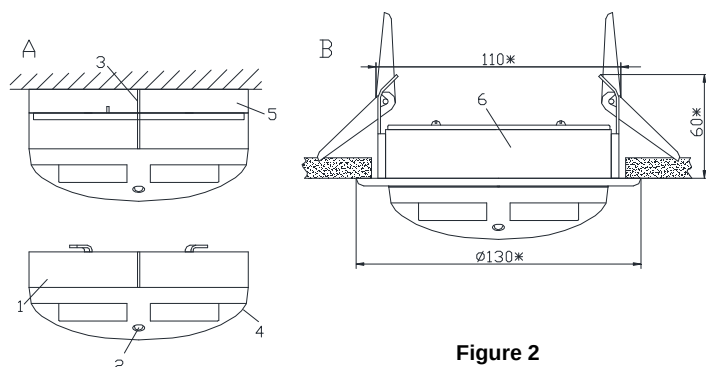
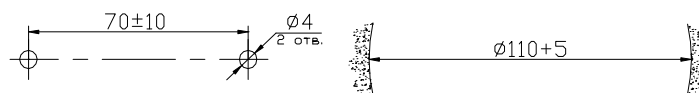

Figure 2
Figure 3
Figure 2 shows two possible ways of attaching the detector. To attach the detector to a solid surface (variant **A**) use the mounting base provided (see also the drilling pattern in Figure 3, at the left). Otherwise, a separately purchased mounting kit MK-2 can be used to build the detector into a suspended ceiling (variant **B**). The size of the mounting hole is shown in Figure 3, at the right.
Figure 3 shows the drilling pattern to install the detector for the variant A and the diameter of the mounting hole in the suspended ceiling for the variant B.
To attach the detector to the mounting base, place the detector into the base and rotate clockwise until the detector drops into place and the matchmark moulded in the detector lines up with the short mark on the mounting base. Continue rotating clockwise until the matchmark on the detector lines up with the matchmark 3 as shown in Figure 2 (A) and the detector locks into place.